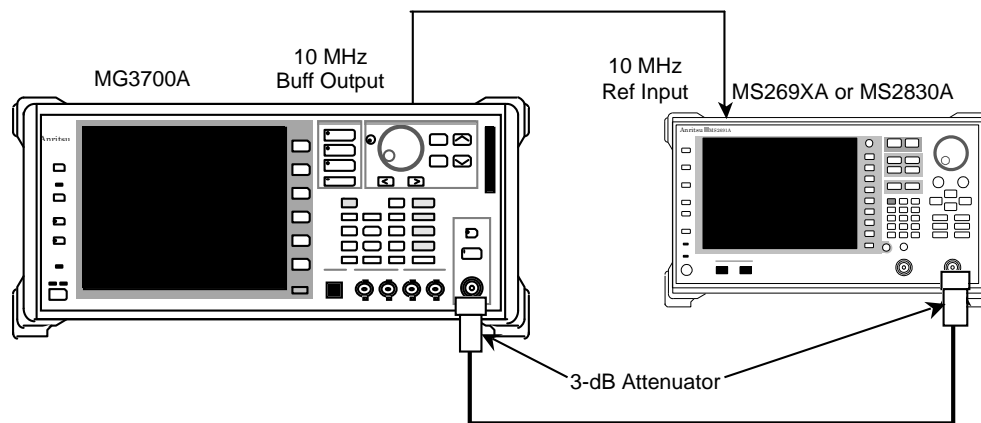

Figure 6.3.3-1 Linearity Calibration Setup
1. Setup the instruments as shown in Figure 6.3.3-1.
2. Set the signal analyzer (SA) as shown in #1 of Table 6.3.3-1 “Signal Analyzer Settings”.
3. Output a 399.99 MHz signal from the Vector signal generator (SG) at a level of 0 dBm (output level reference). This output level reflects the calibration value for item 6.3.1.
8. Change the SG output reference level to -25 dBm and repeat the measurements over in the same way down to a level of -40 dBm. Use the same frequency range/steps. (This output level reflects the calibration value for item 6.3.1.)